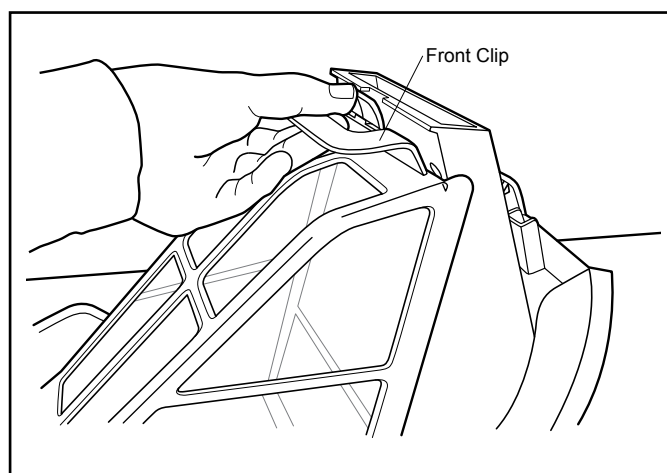

Figure 13. Position and Lock the Filter Canister in Place
2. Rotate the filter canister and lock it in place using the front clip. Refer to Figure 13. When the filter canister is installed properly on the top cover, it will be firmly attached.